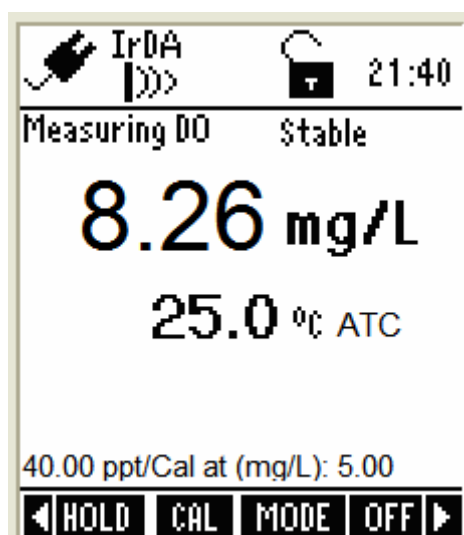

Figure 63 : Concentration calibration
8. Press **ESC (F4)** to go to measurement mode. The meter shows the concentration reading of the solution in measurement mode (Figure 63).